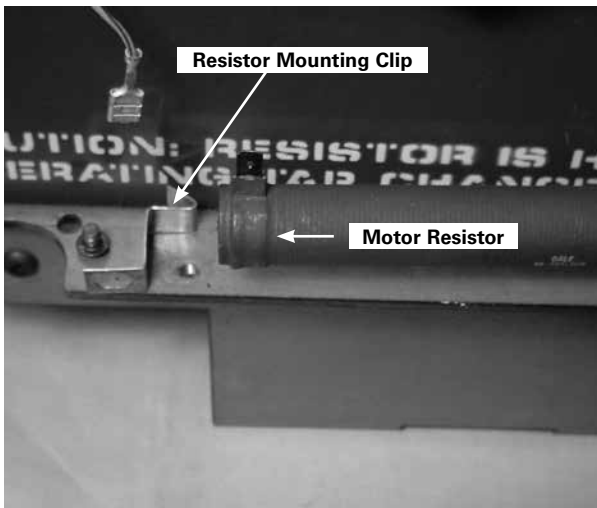

Figure 4. Resistor clip removed
3. Remove the mounting clip from the resistor. See Figure 4.